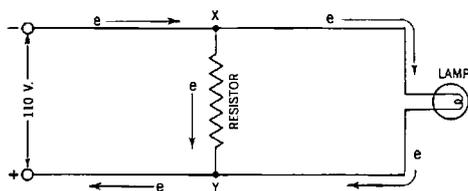

Fig. 30-12. *The parallel circuit. Here the electrons have more than one path to follow.*
**Parallel Circuits.** In a *parallel circuit*, the electrons can follow two or more paths simultaneously. In the circuit of Figure 30-12 the electron stream divides at X. Part flows through the resistor and back to the positive terminal. Another part flows through the
In Figure 30-12,  $R_1$  would be the resistance of the resistor and  $R_2$  that of the lamp. If we assume the resistance of the resistor to be 10 ohms and that of the lamp to be 20 ohms, substituting these values in our formula, we get